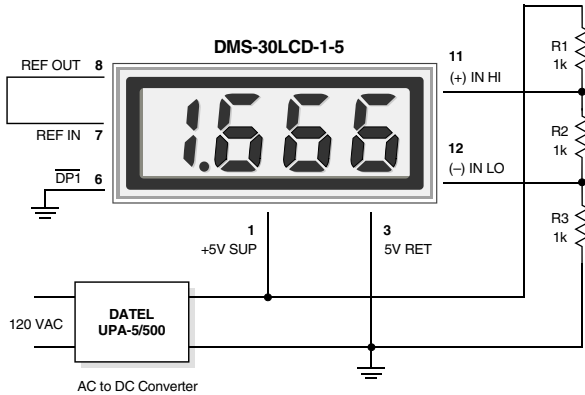

Figure 3. Differential Input Configuration (5V-Powered Models)
- 2. Differential Input Configurations:** Differential measurements can be made with either 5V-powered or 9V-powered meters. Figure 3, though not a practical real-world application, uses a voltage divider to demonstrate the concept of a differential input signal. Be careful not to exceed the  $\pm 2V$  common mode voltage limitation for 5V-powered meters.